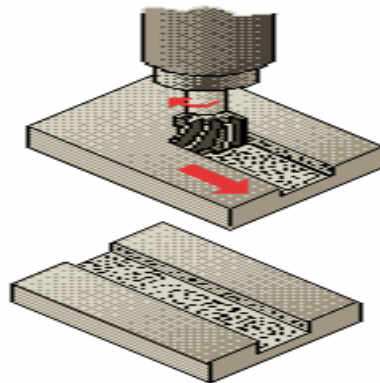

FIGURE 1.4
- 1.8 Which machine process is illustrated in FIGURE 1.4?